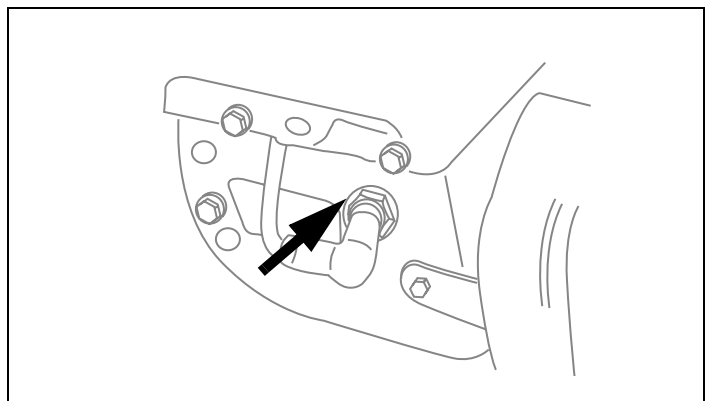

Figure 3. Typical Spark Plug Connection
- Attach the spark plug wire to the grounding post, if provided. See Figure 3.